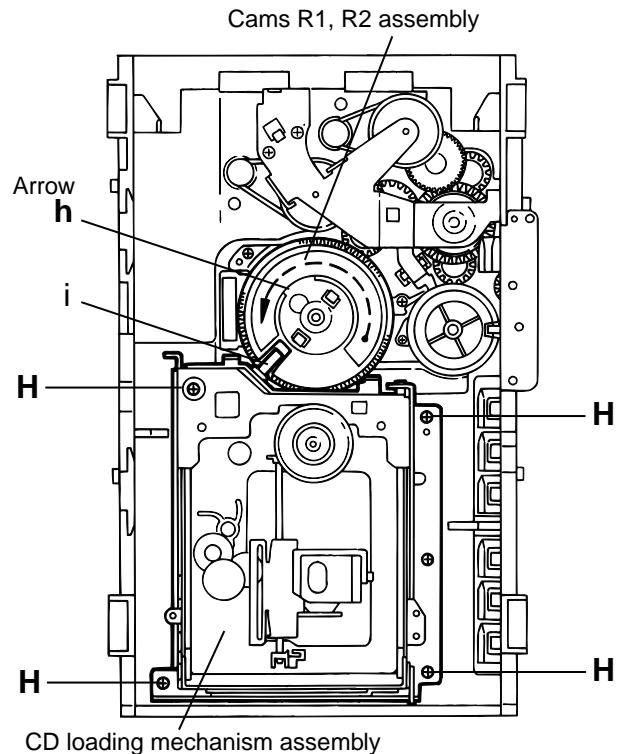

Fig.10
■ Removing the CD loading mechanism assembly(See Fig.10)
1. While turning the cams R1 and R2 assembly in the arrow direction "h" ,align the shaft "i" of the CD loading mechanism assembly to the position shown in Fig.10.